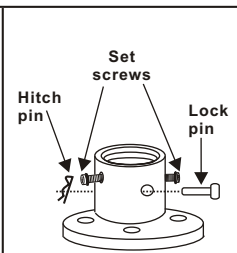

Figure 6
Step 2. Loosen the two set screws and remove the hitch pin and lock pin from the top coupling of the motor assembly. (Fig.6)